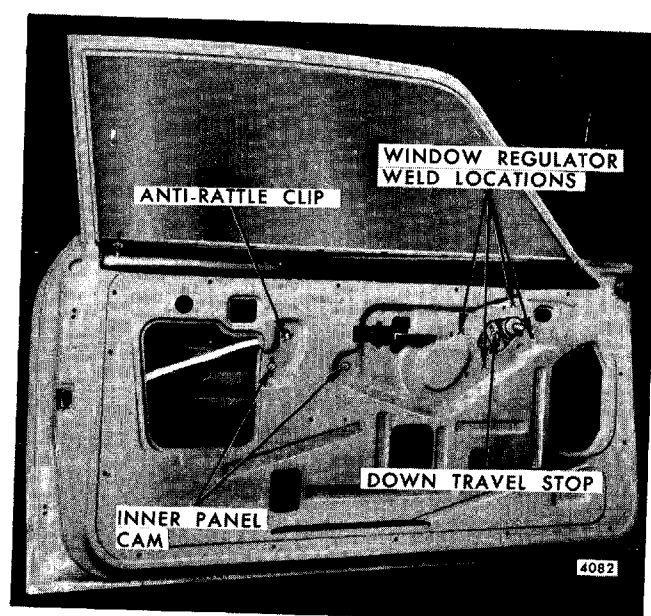
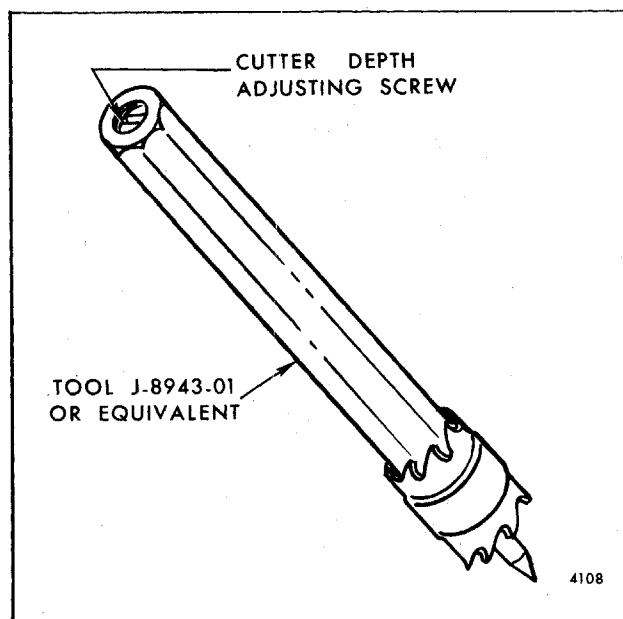

Fig. 5-125-Window Removal and Adjustment - Typical Door for H and X Styles
Fig. 5-127-Spot-Weld Cutter
The inner panel cam (Fig. 5-125) is adjustable and can correct a rotated (cocked) window assembly.
H-07, 27 styles do not have an adjustable down stop. To adjust down-travel on other styles, loosen stop (Fig. 5-125 - H-15, 77 styles; Fig. 5-87 - X styles) and adjust glass to desired height at beltline. Position stop to contact glass (X styles) or regulator (H styles) and tighten attaching screw to 72 in-lb.
2. Lower window to half-down position and remove inner panel cam (Fig. 5-125).
3. Center punch visible window regulator weld marks on door inner panel (refer to Fig. 5-125 for location). Using a spot-weld cutter, tool J-8943-01 or equivalent, drill out each weld (Fig. 5-127).